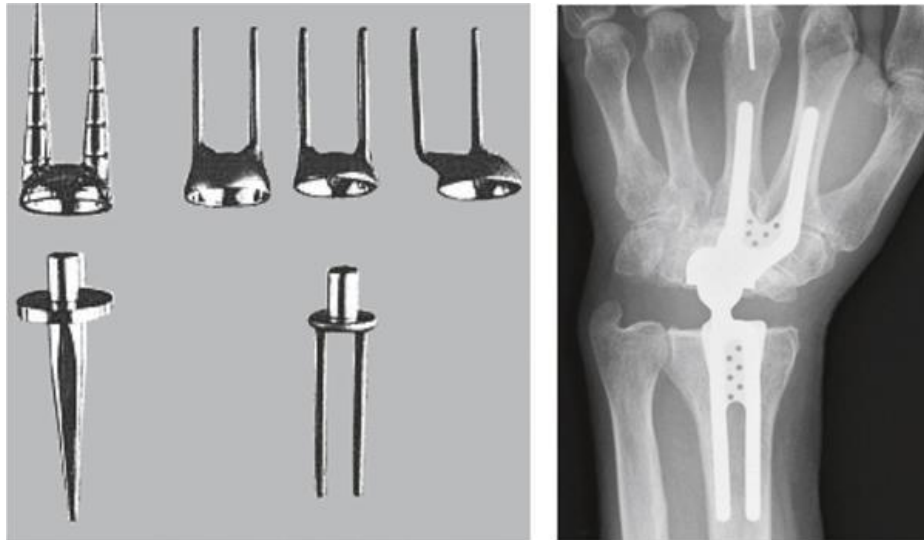

Figure Q2a: Metallic wrist support inserts and X-ray of an example in position.
2. Wrist fractures can be difficult to align to allow natural healing and are often stabilised with titanium inserts to stabilise the joint. These inserts remain in the body and are designed to ensure full function on the wrist. Many designs have been tried with varying success and some examples are shown in Figure Q2a with an X-ray of an insert in position in the wrist.